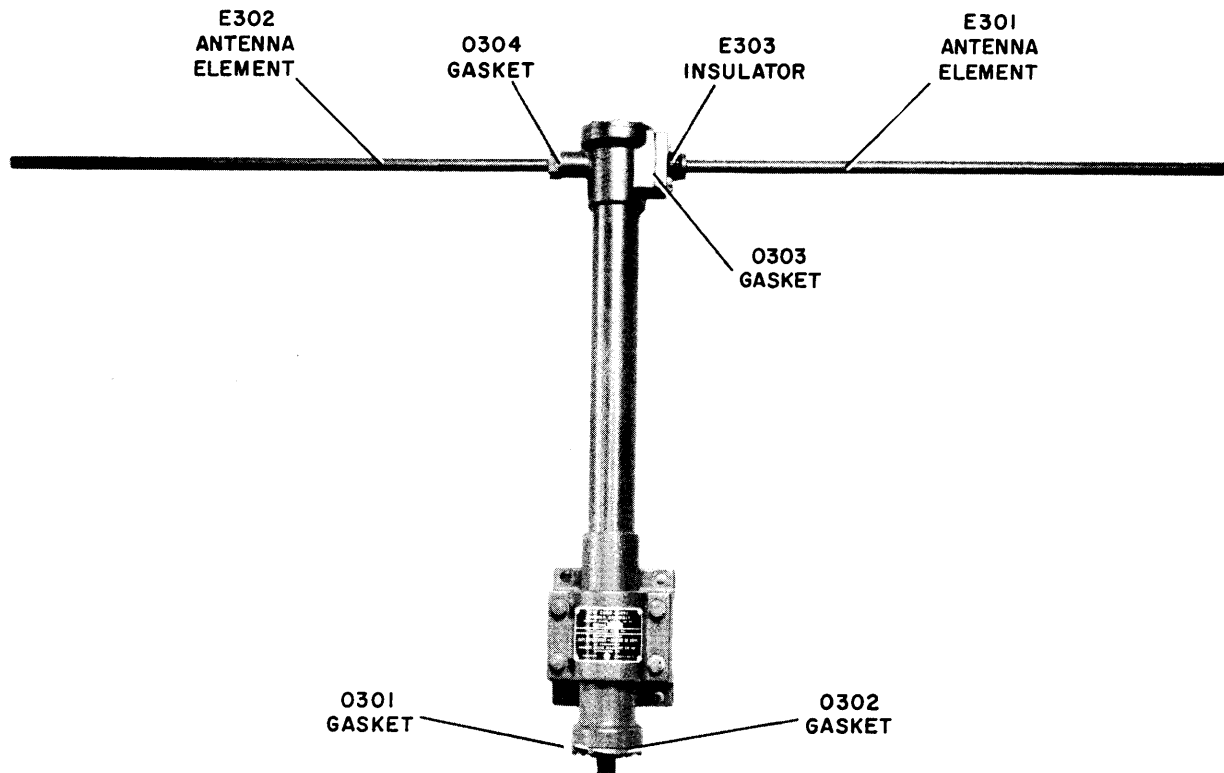

Figure 7-9. Antenna Navy type -66095, Component Locations
(4) REMOVAL OF THE POWER SUPPLY.—The power supply is constructed as an assembly to allow removal if access to the underside is desired. To remove the power supply proceed as follows:
(5) REMOVAL OF THE EXTERNAL METER.—Should it become necessary to replace the variable resistor R601 in the external meter release the three captive screws which secure the meter to the front panel of its case. Lift out the meter. The connections to the meter, the cable and the potentiometer become accessible through the meter mounting hole. Use a 9/16" socket wrench to remove the potentiometer retaining nut. Reinstall the resistor and the meter by the reverse procedure.
(6) ANTENNA, NAVY TYPE -66095.—Figure 7-9 shows the component locations for the antenna. Should repair become necessary requiring the disassembly of the antenna, reference to Figure 7-9 will serve as a guide to expedite repair.